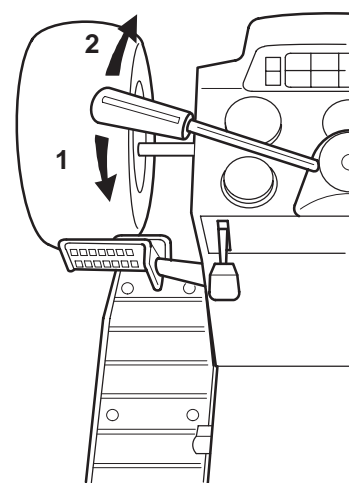

Figure 14
The attachment power lift (Fig. 14) is used to raise and lower attachments.
2. Pull the lift lever in the **up** direction to raise the attachment lift (Fig. 14). This will lift and hold the attachment in the up, or raised position.
2. Push the lift lever in the **down** direction to lower the attachment lift (Fig. 14).